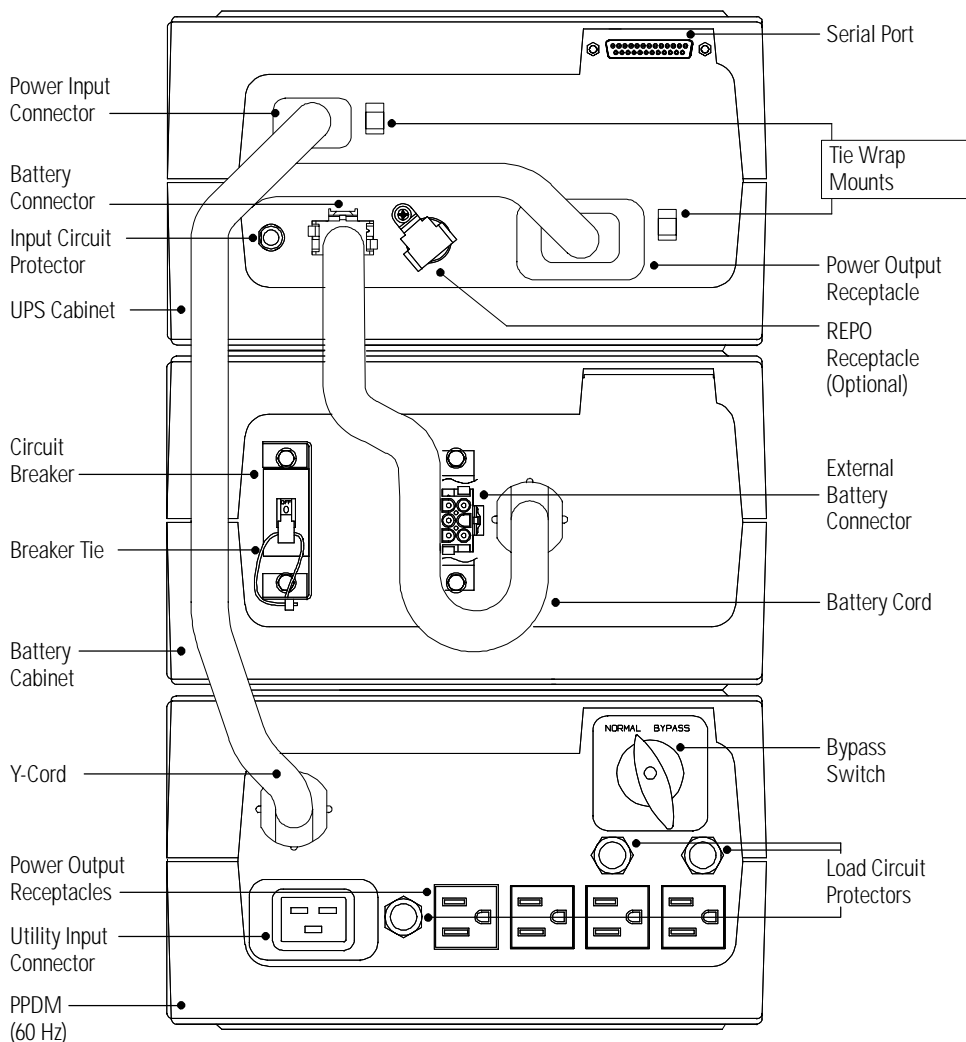
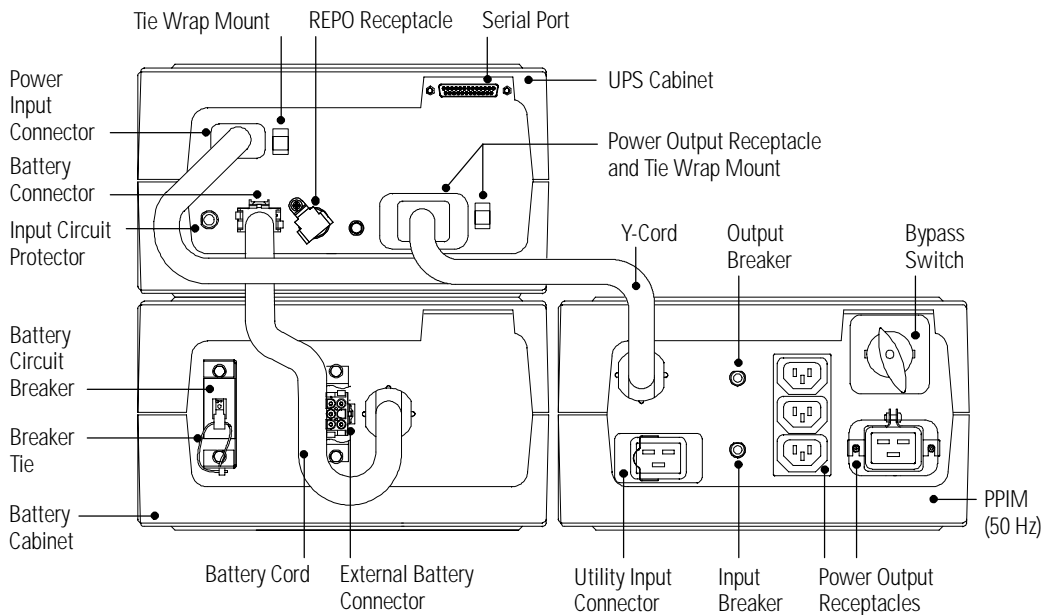

Figure 9. UPS with PPDM Rear Panel
Figure 10. UPS with PPIM Rear Panel
2. Verify the Bypass switch on the PowerPass Module rear panel is in the NORMAL position (see Figure 9 or Figure 10).
3. Verify the circuit breaker on all battery cabinets is in the OFF (O) position.
9. Plug the Y-cord of the PowerPass Module into the power connectors on the UPS rear panel as shown in Figure 9 or Figure 10.
1. Verify the Bypass switch on the PowerPass Module rear panel is in the NORMAL position (see Figure 9 on page 37 or Figure 10 on page 38).